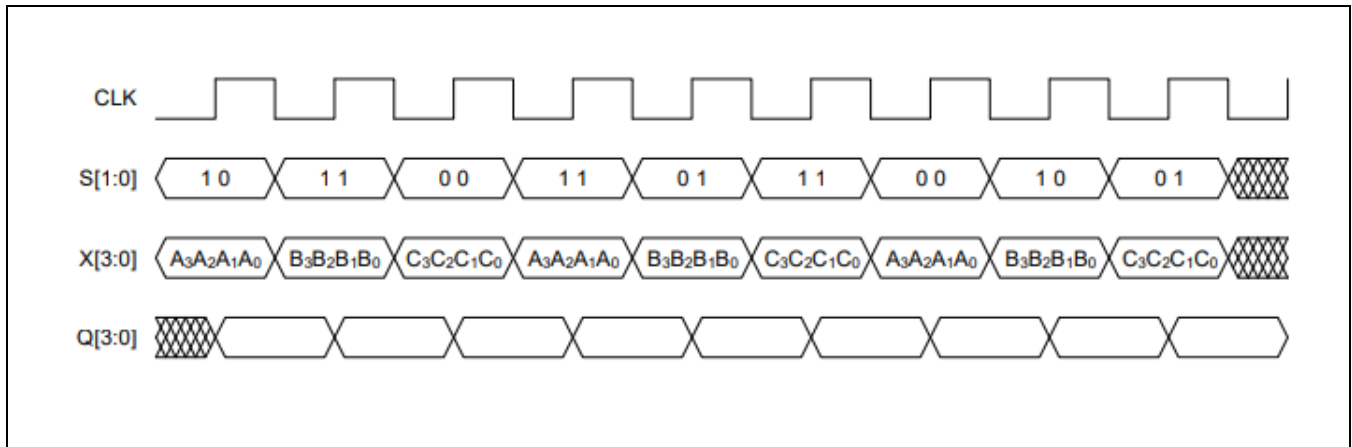

Figure 1. Expected behavior of the circuit
I have implemented the solution plan explained above, by first completing the prelim of the lab, creating the main program and a testbench to simulate the program. The testbench simulated a clock and then using the S and X variables I was able to test all the different operations possible on the output of Q and SS. To complete the prelim of the lab, I needed to change my student ID into binary which resulted in “10 0101 1110 0110” where A= 0101, B= 1110, and C=0110. Using these and the given S values from Figure 1, I was able to simulate and complete the preliminary lab. From here, the lab was as simple as plugging in the FPGA board and simulating it using the baseline file. For the baseline, clk was key 0, S was switches 4 and 5, X was switches 3 through 0, Q was the red LEDs 3 through 0, and finally SS was displayed on HEX0.